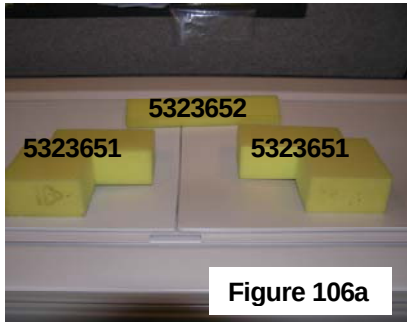
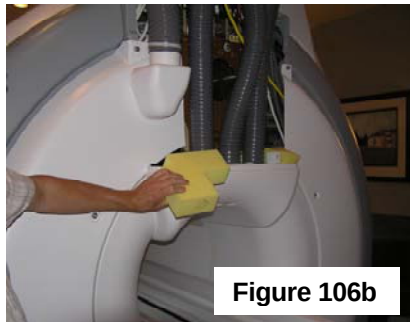
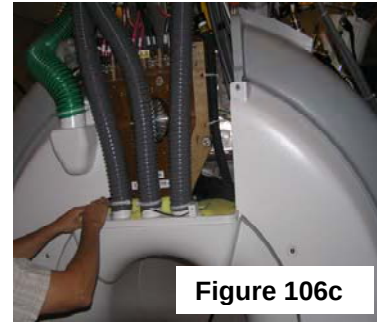

Figure 106a
Figure 106b
Figure 106c
- F. Press in foam insert (5323651) on either side of the endbell in the orientation shown. **(Fig 106a)**
- G. Press in foam insert (5323641) between the Rear Endbell and the Busbar assembly **(Fig 106a)**. **(Fig 106b & Fig 106c)** show installation and final assembly.